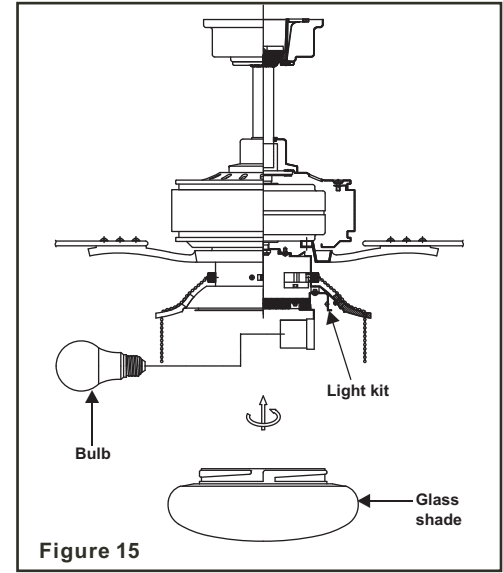

Figure 15
Step 3. Install the 9W LED bulb (included). (Fig. 15)
Step 4. Raise glass shade up against the light kit and secure it to fan by turning glass clockwise until snug. DO NOT OVERTIGHTEN. (Fig. 15)